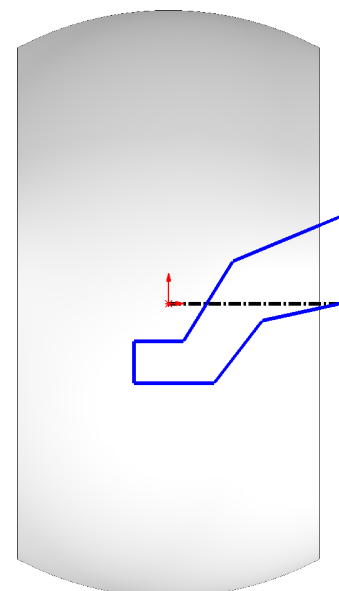

Fig. 13
Step 6. Sketch **8 lines** starting an end-point of centerline, **Fig. 13**.